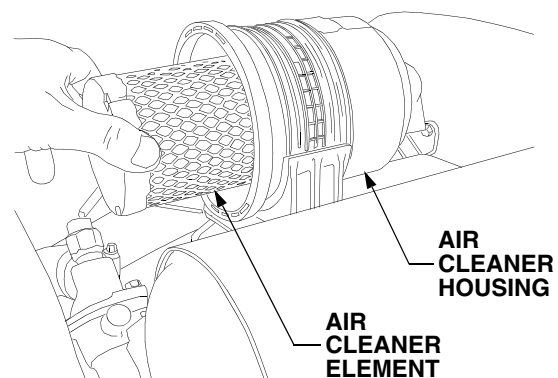

Figure 56
- Pull the air cleaner element from the housing. See Figure 56.